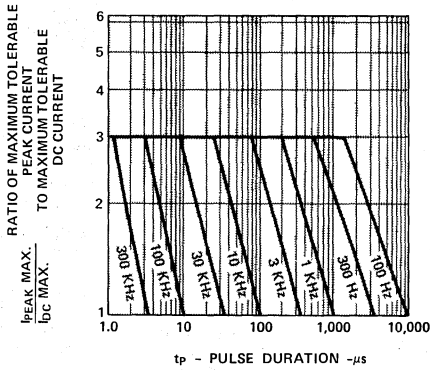

Figure 3. Maximum Tolerable Peak Current vs. Pulse Duration. ( $I_{DC}$  MAX as per MAX Ratings.)
- See Figure 3 to establish pulsed operating conditions.